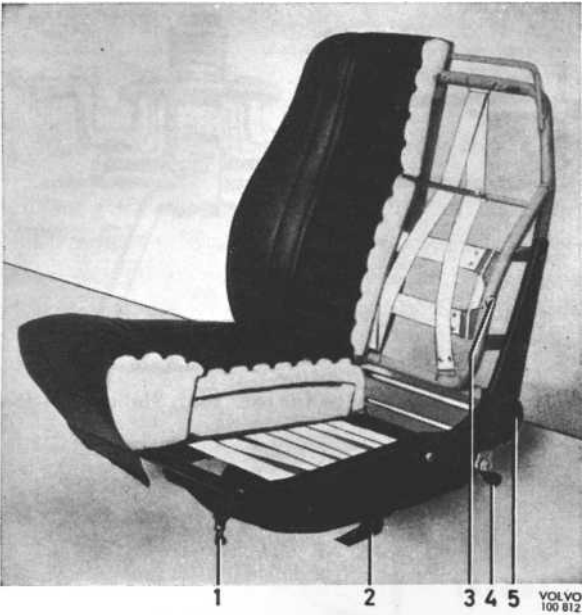

Fig. 7. Front seat (2-door)
The front seats are built up on a tubular frame. The padding consists of foam plastic which is covered by fabric-backed vinyl. The seat can be adjusted longitudinally by releasing the catch (3, Fig. 5), and sliding the seat. The seat can be adjusted vertically at the attachment (4) which is provided with holes at different heights. The seat can be tilted to the desired position by means of the adjusting device (5). The backrest inclination is variably adjustable by means of the handwheel (2) which operates an eccentric. The seat is provided with an adjustable lumbar support (see Fig. 7), the tension of which
is adjusted with a screw (1, Fig. 5 and 3, Fig. 7) on each side of the backrest. The seat cushions are attached to the seat frame by means of press-fasteners.
The front seats on the 2-door vehicle can be hinged forwards in order to facilitate entry to the rear seats. They are provided with catches (4) in order to prevent tilting forwards (see Fig. 7).